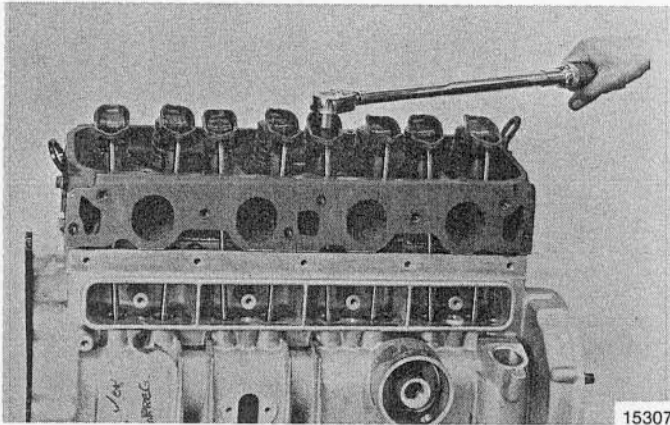

Figure 4. Torquing Rocker Arm Attaching Bolts
1. Set #1 piston at TDC (firing) and torque the following rocker arm attaching bolts to 20 lbs. ft. (27.1 N.m). (Figure 4)